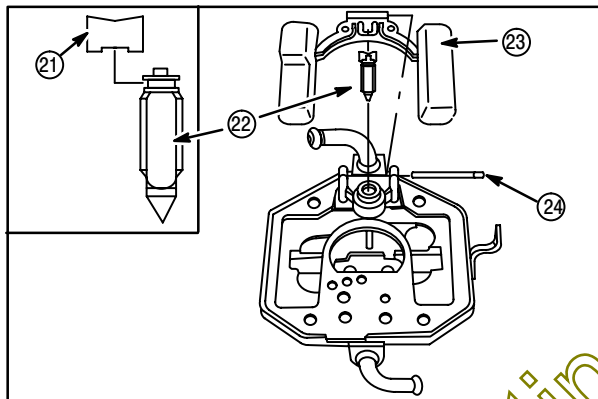

Fig. 111
18. Assemble inlet needle retainer (21) to inlet needle (22). Assemble to float (23), Fig. 111.
19. Install float (23) and needle to upper carburetor body. Insert hinge pin (24).